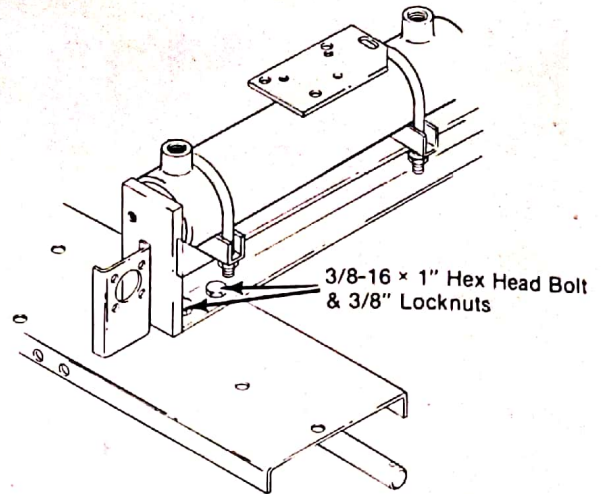

Figure 2
**Step 2)** Block engine mounting channel to prevent tipping. Place the main beam on top of the engine channel so that the log splitter is in the shape of a "T". Align the four holes in the bottom back end of the main beam with the four holes in the top front of the engine channel. Assemble them using the four 3/8-16 x 1" bolts and lock nuts provided. Do not tighten at this time. (Fig. 2)